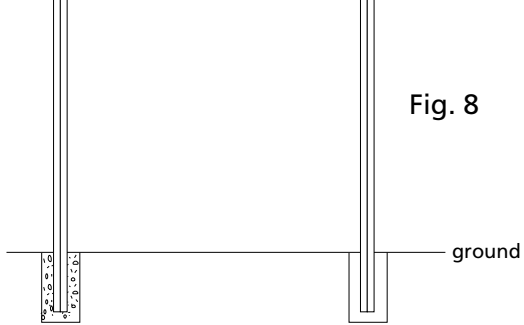

Fig. 8
- determine post spacing (maximum 6' from centre to centre - Fig. 8)